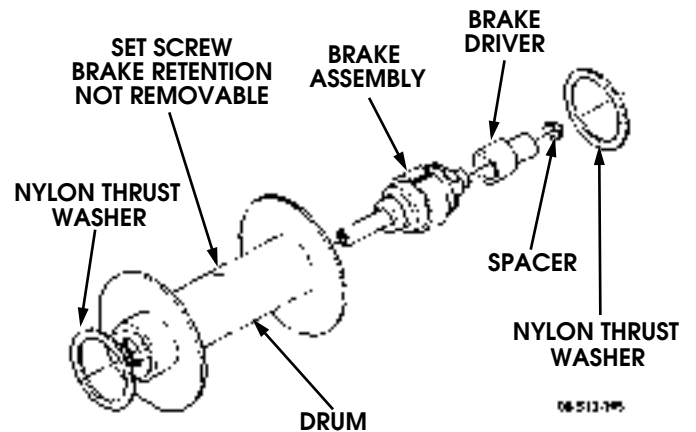

Figure 13-8: Thrust Washers and Brake
10. Remove two nylon thrust washers from drum (Figure 13-8).
12. Push brake through open end of drum and remove (Figure 13-8).